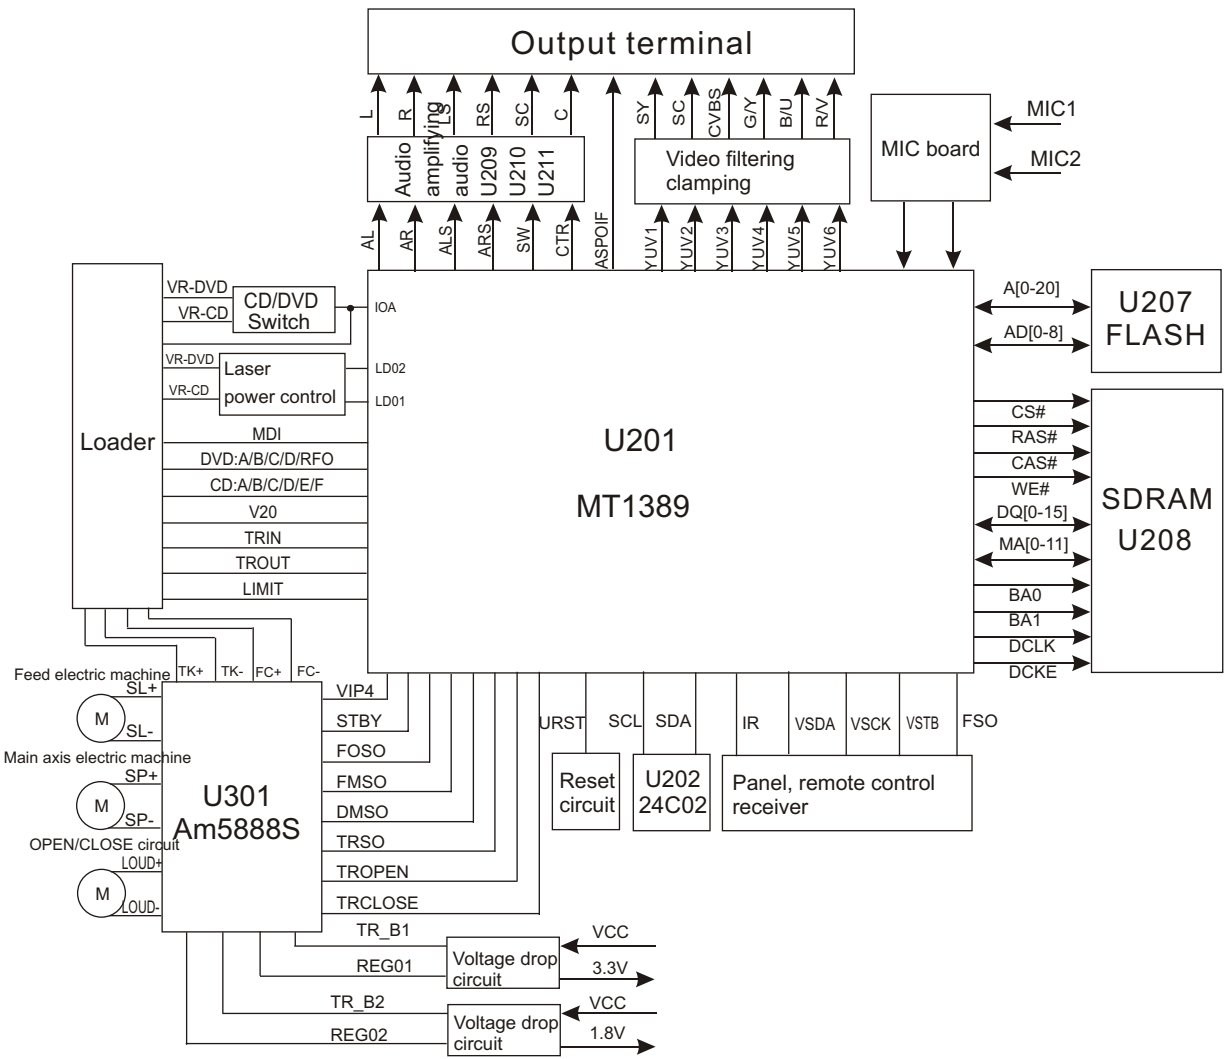

Figure 3.1.1.1 Block diagram of the player
DV828X(RU) is composed of decode circuit, servo circuit, audio circuit, video circuit, MIC circuit and power circuit. Block diagram of the player is shown in the figure 3.1.1.1: